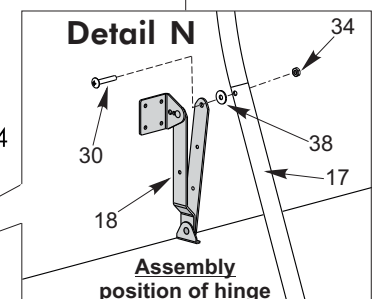

Figure 14
22. Attach Hinges (#18) to Strut Tubes (#17) as shown in **Figure 14** & **Detail N**. With hinge positioned as shown, align hole in hinge with hole in Strut Tube and attach with 1/4" Screw (#30), Plastic Washer (#38) and Locknut (#34). Plastic Washer (#38) goes between Strut Tube and Hinge. Tighten nut securely. Repeat for other Hinge. **CAUTION: Hinges must be positioned exactly as shown or table will not operate correctly and could be damaged.**